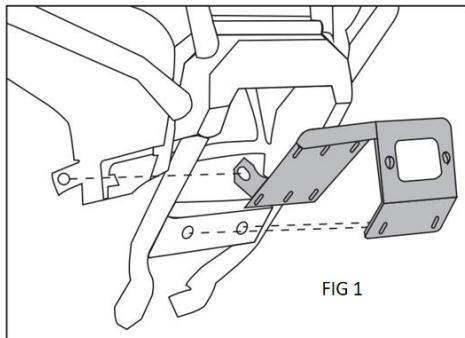

FIG 1
3. Place the winch mounting bracket onto the front bumper, ensuring the two mounting holes beneath the fairlead cutout on the bracket line up with the corresponding holes at the bumper's lower front. Then, align the two rear winged mounting tabs on the bracket with the bumper's center frame attachment holes. (Refer to Fig 1 and 2.)